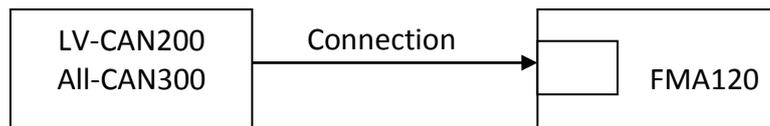

Figure 55 Connect adapter LV-CAN100 to FMA120
**SCAN function** – is in use when FMA120 is connected to CAN adapter (Figure 55), then wait 10s (Note, that car engine must be started), disconnect adapter from FMA120, and connect PC USB cable to FMA120 Device (Figure 55). It is very important not to disconnect FMA120 from power source during this operation, because if FMA120 is reconnected all received CAN bus data will be lost. FMA120 remembers received data from LV-CAN200 or ALL-CAN300 and at the end of the procedure when “SCAN” button is pressed, user will see all CAN data which is sent by adapter. Enable CAN data which needs send to server and save configuration pressing “Save” button.
1. In car, connect LV-CAN200 or ALL-CAN300 to CAN bus and to the FMA120 device (Figure 55), wait 10 seconds. Note, that car engine must be started.